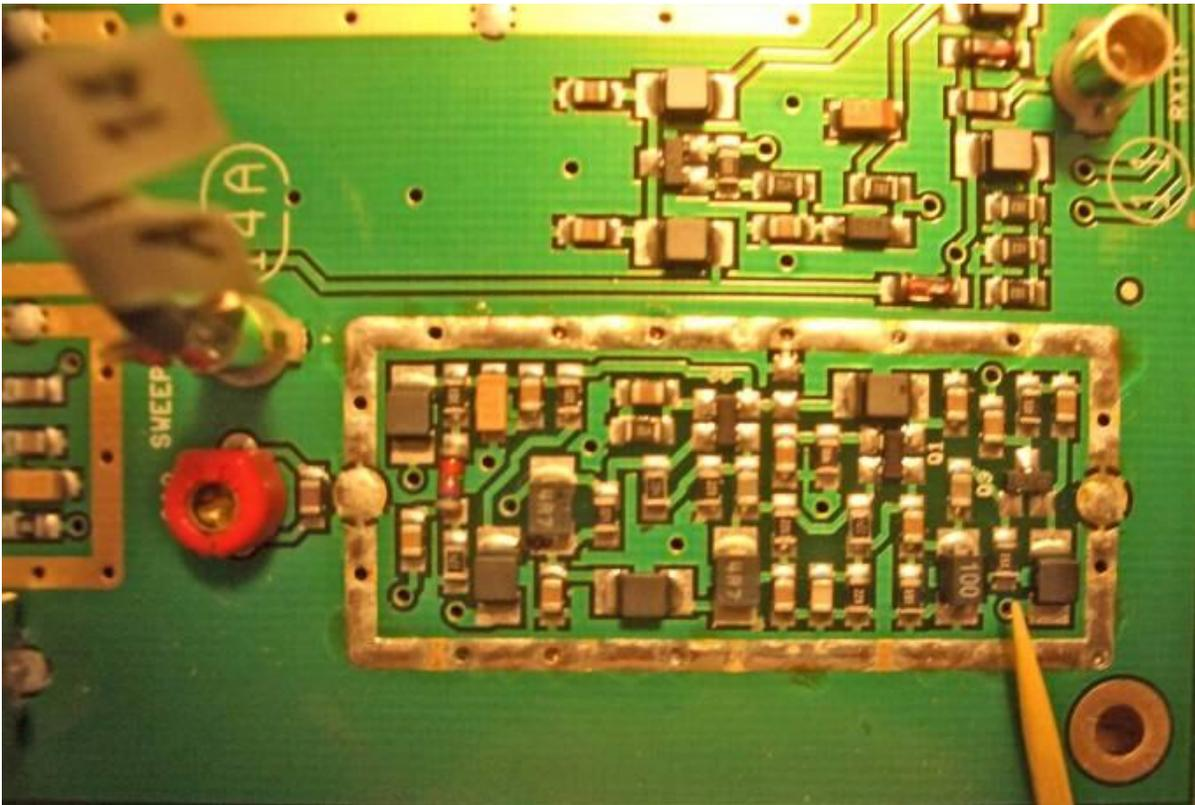

Figure A-2: Location of R26
7. **Note** the rectangular area directly between the **14A** connector jack and the front edge of the IF board (immediately to the left of the 1.8 kHz roofing filter). The pointer tip in Figure A-2 shows R26.
8. Attach a piece of the RG-178 coax across R26 with the coax shield attached to the ground plane (the ground plane is the end nearest the pointer in Figure A-2.). **(If you are not using an internal buffer amplifier go to step 14.)**